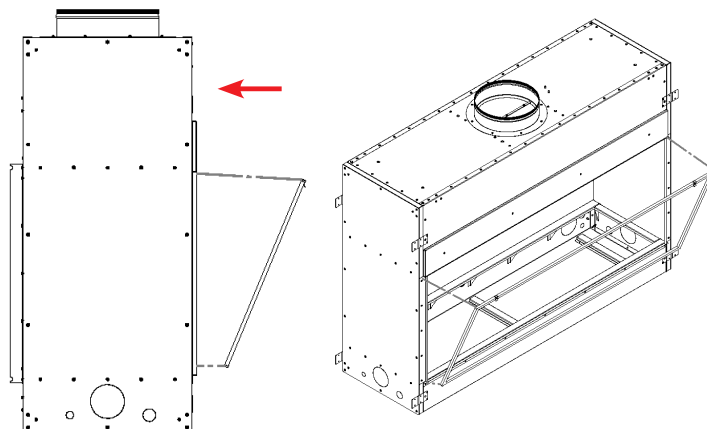

Figure 40 - Invisimesh Installation
2. Once the bottom is in place, carefully lean the top of the Invisimesh face toward the top of the fireplace until it sits securely (see figure 40).